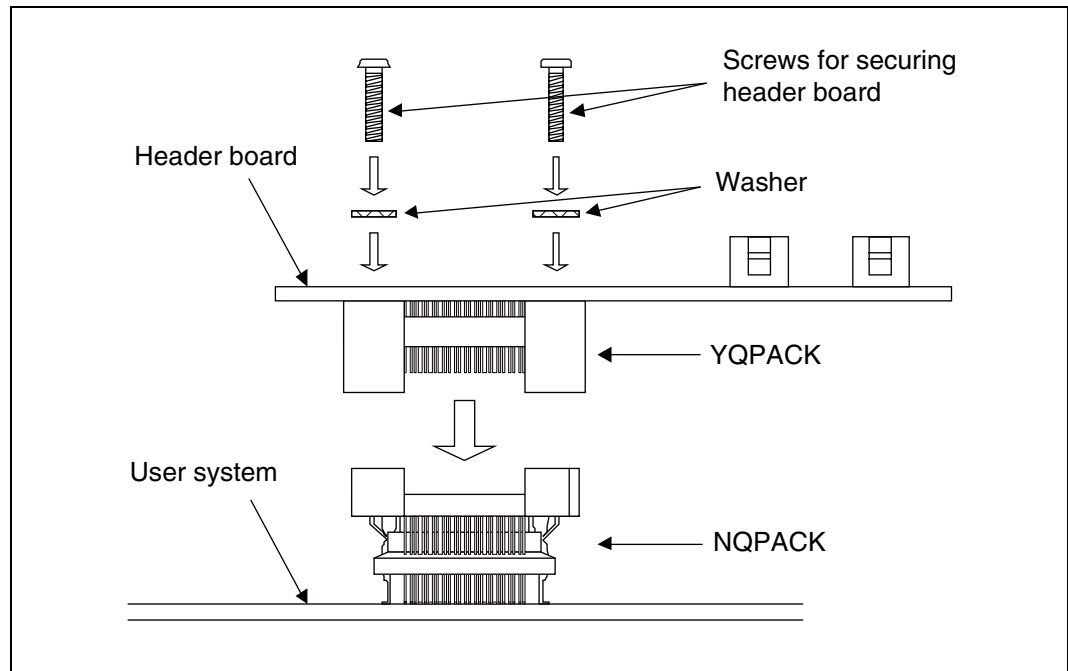

Figure 4 Header board connection
2. Insert each screw for securing header board through the washer in each of the four screw holes on the header board and then tighten the four screws diagonally in equal forces, using the special screwdriver supplied with the NQPACK (see “Figure 4”).